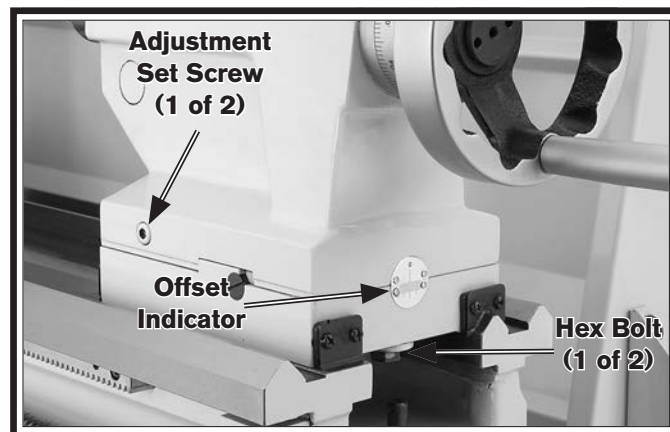

Figure 42. Tailstock offset controls.
1. Loosen the hex bolts underneath both ends of the tailstock to release the clamping pressure between the top and bottom castings (see **Figure 42**).